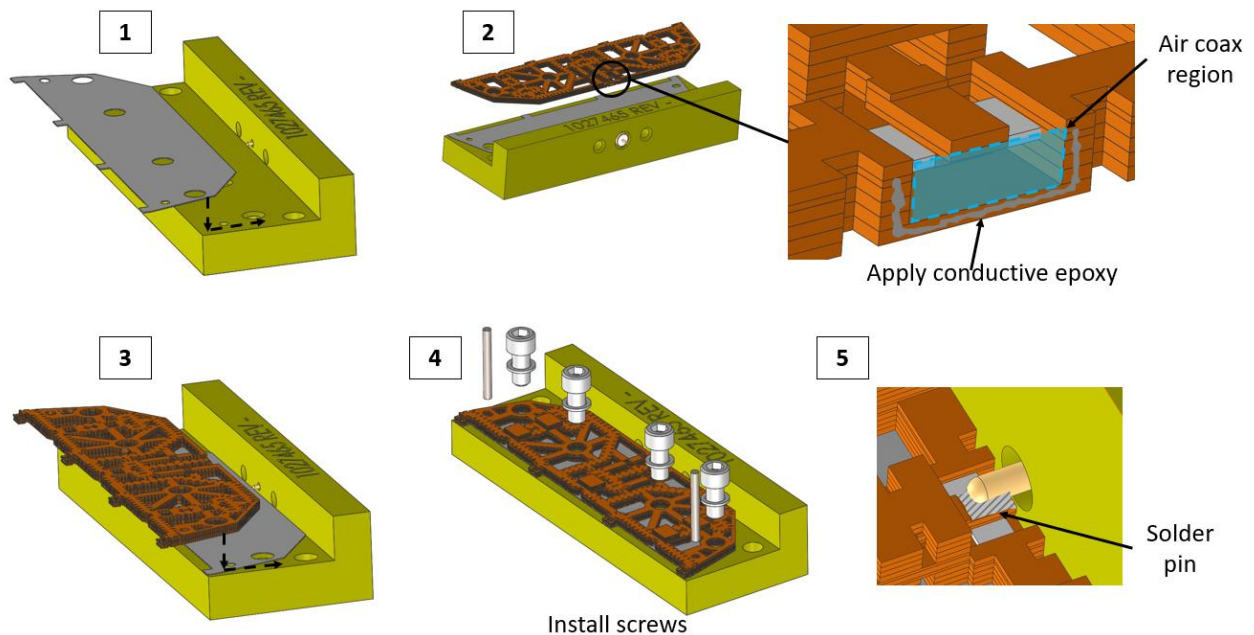

Figure 14: Coaxial Output Connection Assembly Steps 1 through 5
1. Align and place Heat Spring foil to housing (see Figure 14).